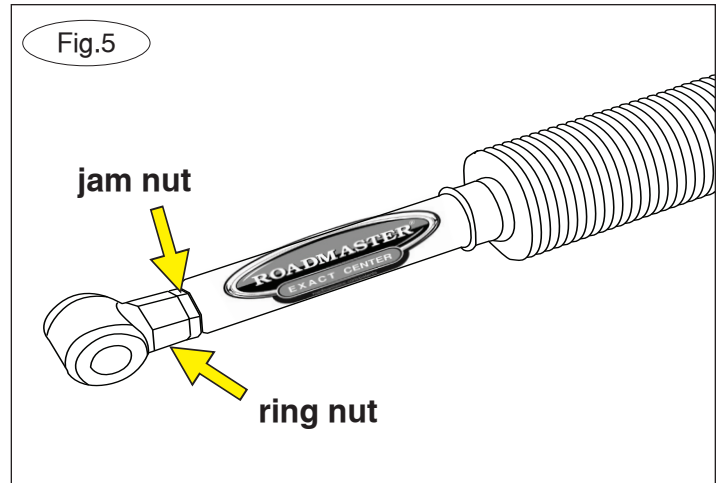

Fig.5
6. **IMPORTANT** Several micro-adjustments may be needed before the fit is dialed in (Fig.5). A left pull can be corrected by shortening the unit, a right pull can be corrected by lengthening the unit. **Important Notes: Only loosen one jam nut at a time when adjusting. Be sure the jam nuts are tightened against the END and not the body. Do not exceed a distance of 3/8" between the jam nut and unit body.**